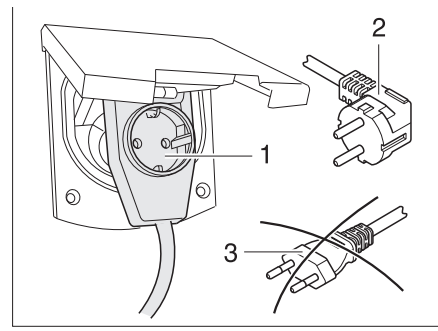

Fig. 298 Connecting an angled connector with socket
▶ When using a CEE 17 angled connector with rear socket (Fig. 298,1) only use a rubberised and sealed IP 44 socket with earth contact (Fig. 298,2). Do not use sockets without earth contact (Fig. 298,3). Danger of electrocution!